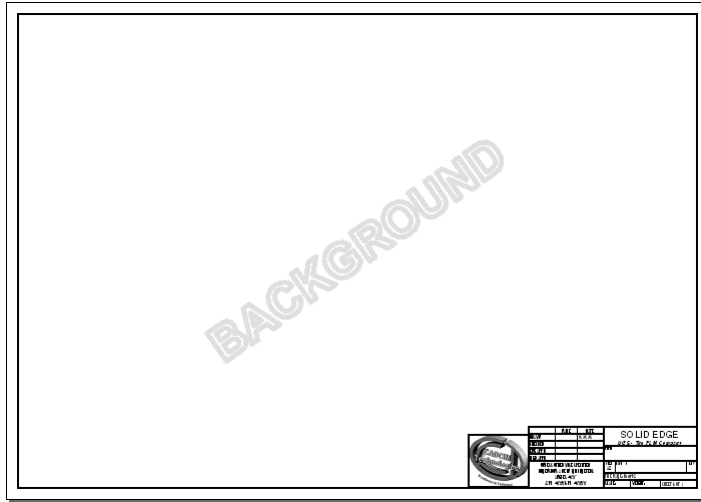

Figure 12-34 Title block with the image
9. Browse and then select the image file of the logo that you want to use, refer to Figure 12-34.
12. Drag the handles of the image to resize it and move it to the desired location, refer to Figure 12-34.